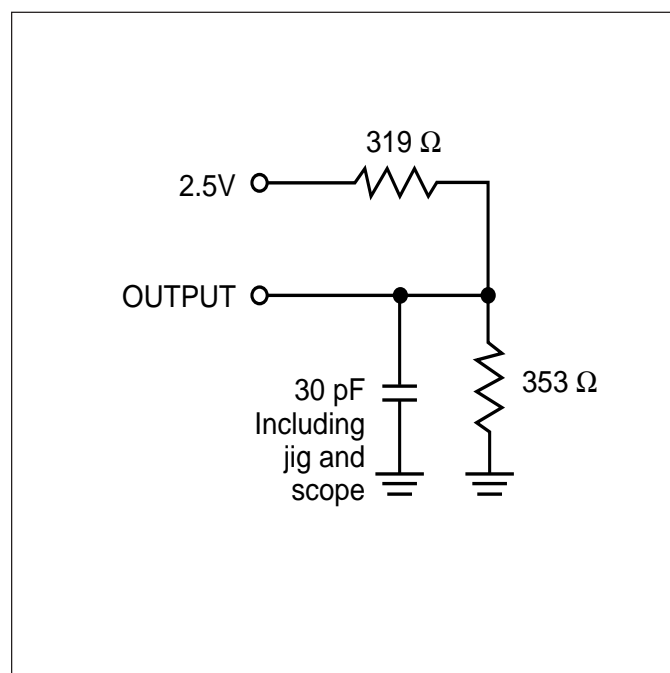

Figure 1a.
- Test conditions assume signal transition times of 3 ns or less, timing reference levels of 1.25V, input pulse levels of 0 to 2.5V and output loading specified in Figure 1a.
Output Load	See Figures 1a and 1b
1. Test conditions assume signal transition times of 3 ns or less, timing reference levels of 1.25V, input pulse levels of 0 to 2.5V and output loading specified in Figure 1a.